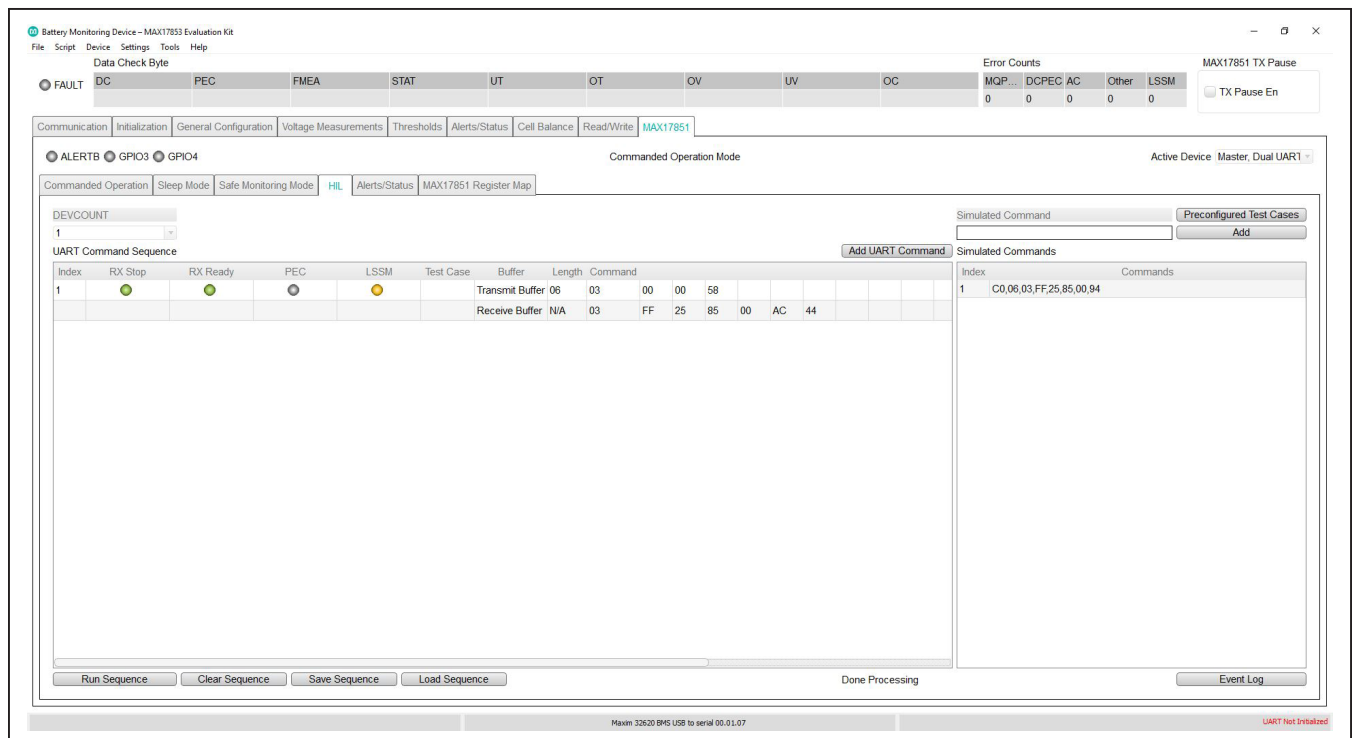

Figure 19. HIL run sequence
- 5) Select the **HIL** tab (Figure 19) and set the **DEV-COUNT** drop-down list to **1**. This is the number of simulated devices.
- 6) Click on the **Add UART Command** button and observe the **UART Command Sequence** be populated with an empty sequence. Populate the fields next to **Transmit Buffer** as Figure 19. The UART command **06,03,00,00,58** will be loaded to the Master once the sequence begins.